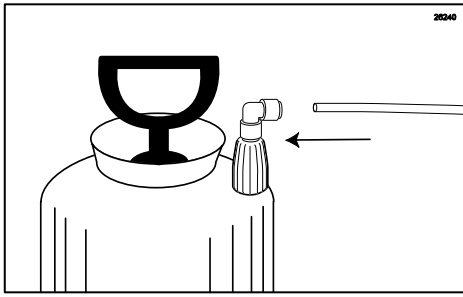

Figure 125
3. Insert the other end of the sanitizer tube into the fitting on the Sanitizer Tank. (See Figure 125.)